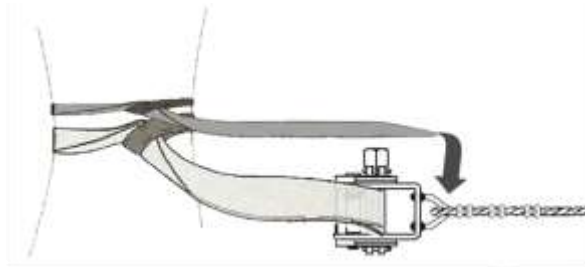

Figure 4.
3. Using 2 half-hitch knots, tie off the Safety Link to the cable thimble-eye at the end of the wire rope (fig. 4.)